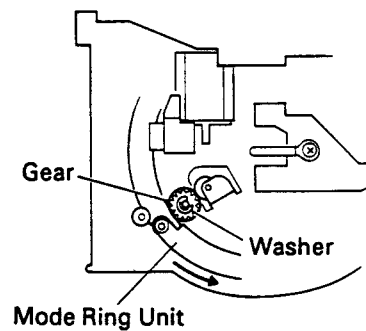

Fig. 8
11. Detach the washer and remove the gear. (Fig. 8)
12. Turn the mode ring unit as far as possible in the direction of the arrow. (Fig. 8)
5. Turn the mode ring unit as far as possible in the direction reverse to the arrow. (Fig. 8)
6. Install the gear and put the washer in place. (Fig. 8)